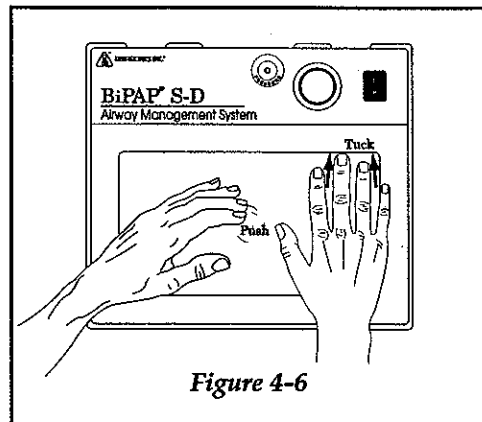

Figure 4-6
- Step 6** Center a new filter over the filter holder. Carefully push in on the center button and tuck the filter in on all four sides as shown in Figure 4-6.